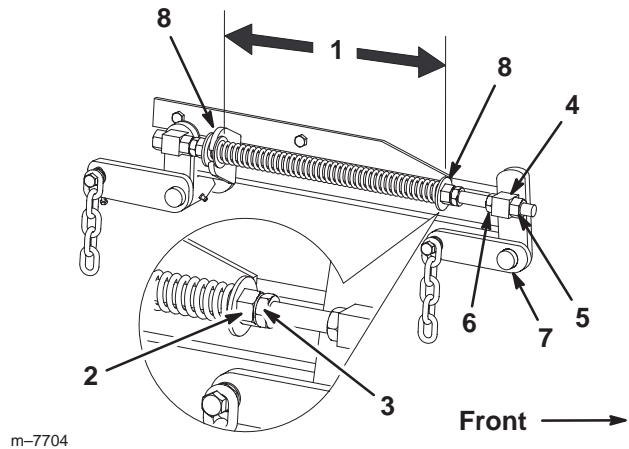

Figure 54
7. Loosen the front swivel jam nuts, at the front of the right and left swivels, approximately 1/2 inch (13 mm) (Fig. 54).
8. Adjust the lift nuts on both the left and the right side of the machine to achieve **1/4 to 3/8 inch (6 to 10 mm) lower in front at A than in the rear at B** (Fig. 54).
1. Raise the mower lift lever to the transport position (Fig. 54).
2. Check the distance between the 2 large washers; it must be 10-1/2 inches (26.7 cm) (Fig. 54).
3. Adjust this distance by loosening the spring jam nut and turning the nut in front of each spring (Fig. 54).
4. Lock the nut into position by tightening the spring jam nut (Fig. 54).